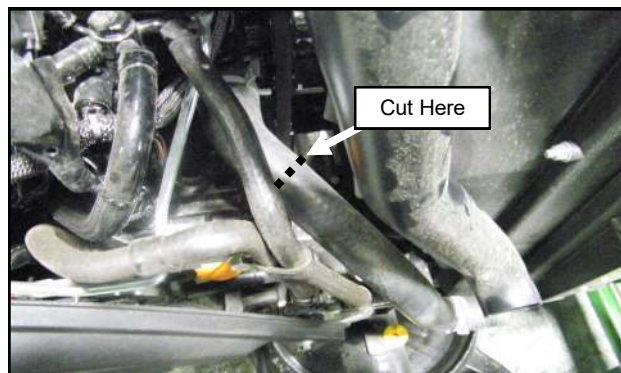

Fig. 18.2 (Cut Lower Radiator Hose)
- 18.2** Cut the lower radiator hose where shown. See Figure 18.2.